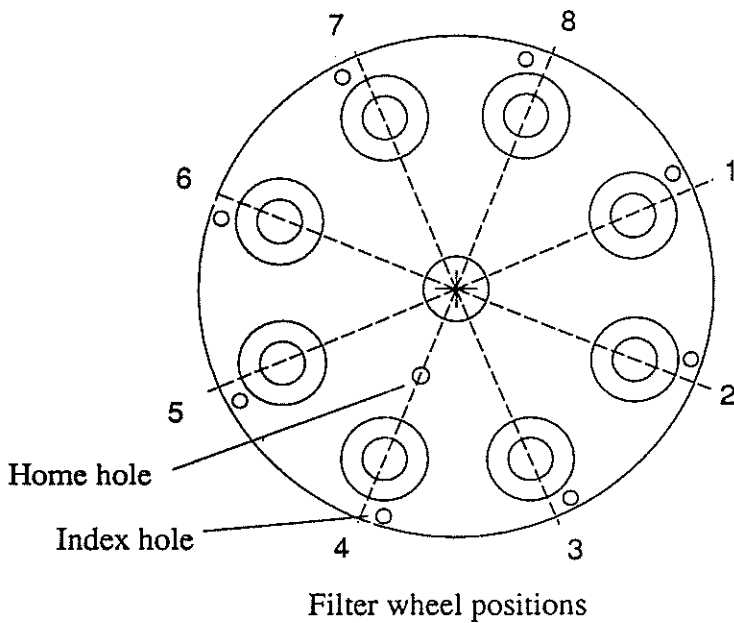

Figure 12. Filter Label and Filter Wheel Positions
5. Remove the (3) 4-40 screws securing the photometer PCB and gently move it aside.
7. Refer to Figure 12. Locate the filter to be removed. Push the filter out of the wheel using the eraser end of a pencil or other soft blunt object. Remove all filter components from that position in the wheel.
8. Locate the neutral density filters, dot screen, and transmittance filters that were included with the replacement filter and drop them first into the cavity. Install the interference filter with the mirror side down. Place (2) very small dabs of silicone adhesive on either side of the filter to prevent it from working loose. Avoid smearing silicone adhesive on the filter surface. Allow the adhesive to cure overnight.
13. Install the photometer subassembly to the chassis by replacing the (3) #6 self tap screws through the chassis base. Line up photometer with locating marks made in step 2. Connect the (2) cables removed in step 1.
14. Attach the power cord and connect the instrument to the mains supply. Set the power switch to ON (1). Select test #186. The displayed numbers represent the voltages of the installed filters. All voltages should be between 2 and 11 volts.
The filter label located on the photometer cover describes the specific filter wheel configuration for your particular instrument. Refer to Figure 12.